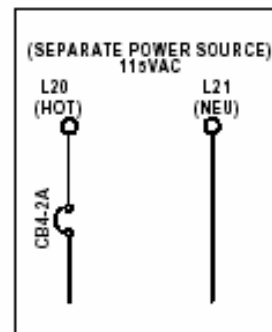

Figure 2-3
- B. The second circuit requires common to all drive types (for the 1st controller of each group only) is a separate independent emergency backed single phase 120 VAC circuit for North America and 230 VAC circuit for the remainder of the world to supply power for the hall call circuitry. This circuit should also be a 15 amp fused circuit. [See Figure 2-3.]